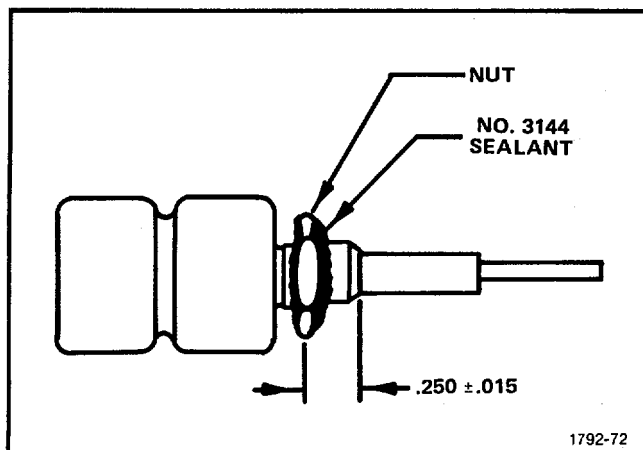

Figure 5-19. Application of sealant to FINE control nut.
2. Install nut on bushing as shown in Fig. 5-19.
3. Form a bead of No. 3144 sealant at the interface of the nut and bushing as shown in Fig. 5-19.